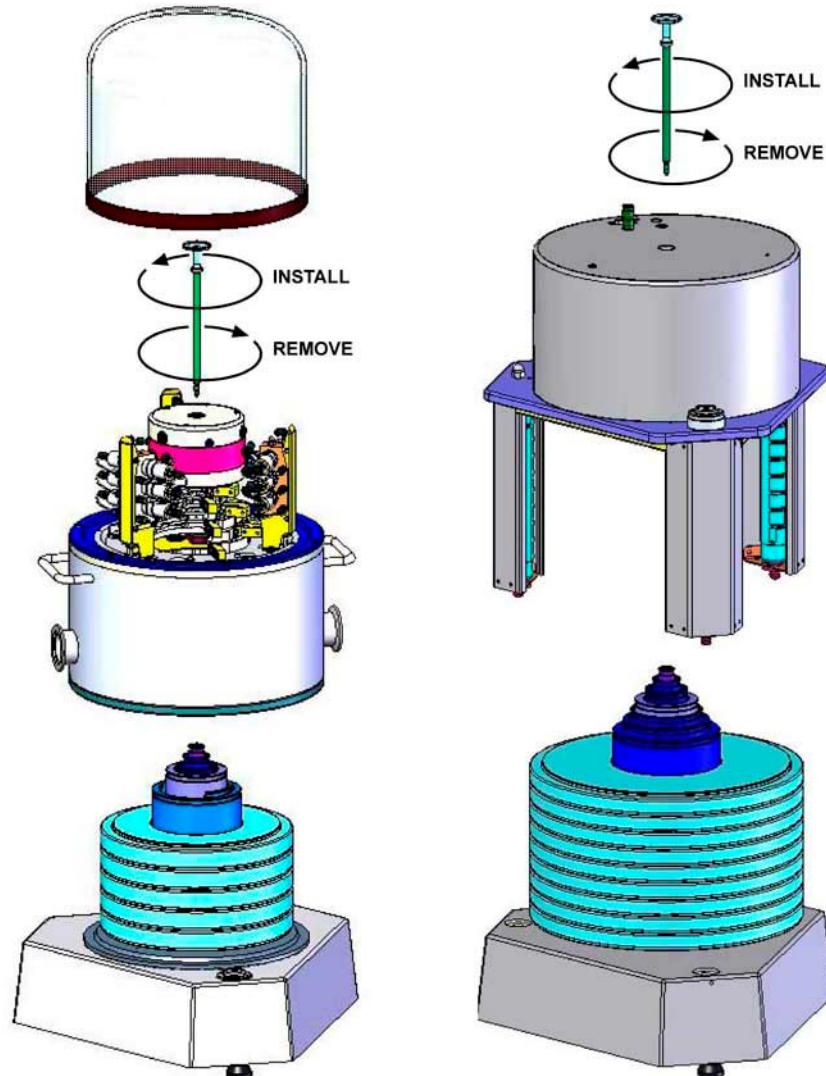

Figure 50. AMH installation on PG7000 Platform
To remove the AMH-38 mass handler from the PG7601 Platform, proceed as follows (see Figure 50).
To install the AMH-38 mass handler on the PG7601 Platform, first install the mass set (see Section 6.5.2). Then proceed as follows (see Figure 50).
- ❶ **Insert the mass lifting shaft into the AMH:** With the AMH-38 sitting on a flat surface and with all pneumatic and electrical connections in place, insert the mass lifting shaft into the hole in the center of the AMH mass lifter and slide it down until the trim mass tray sits on the top of the lifter. This arrangement trips the AMH's internal proximity sensor allowing the AMH system to be operated off of the PG7000 Platform without an actual mass load.
- ❷ **Clear the AMH and test its operation:** On the PG7000 Terminal, press [**SPECIAL**], **<8AMH>**, **<2control>**, **<3loadall>**. The trim mass tray should rise approximately 2.5 cm (1 in.) above the top of the lifter. Then the trim mass tray should be lowered back down. The steps of this procedure are commented on the PG Terminal display as they occur. If the sequence does not complete and/or any error messages are observed, see the AMH Operation and Maintenance Manual for troubleshooting assistance. If the sequence completes, the mass handler has been cleared and put into a known state in which all mass holding ledges and pins are retracted so that it can safely be slipped down over the mass set and installed on the PG7000 Platform (see Figure 50).